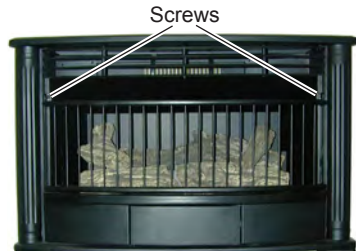
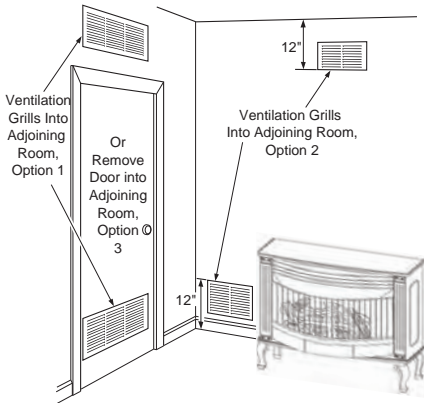

Figure 2 - Removing Screen
Figure 4 - Ventilation Air from Inside Building
1. Remove two screws in the upper corners of the screen (one on each side, see Figure 2). Lift and pull forward to remove.
1 and 2, Figure 2). You can also remove door into adjoining room (see option 3, Figure 4). Follow the *National Fuel Gas Code, ANSI Z223.1/NFPA 54, Air for Combustion and Ventilation* for required size of ventilation grills or ducts.